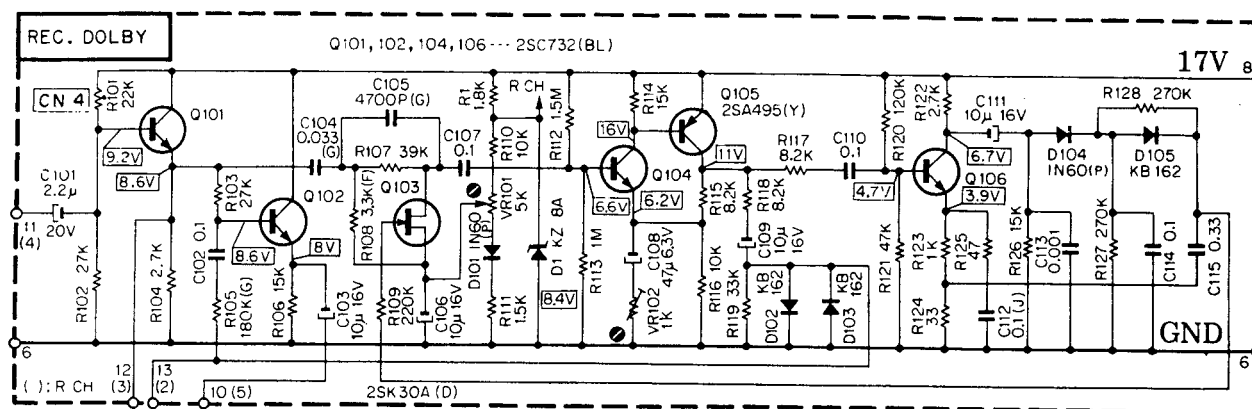

Fig. 2.6 Record Dolby Processor Circuit Diagram
Fig. 2.6 shows a recording mode Dolby processor circuit. The circuit input signal is applied through terminal 11(4), while the signal applied through terminal 12(3) is fed to the MONITOR switch and LIMITER circuit and is only subjected to impedance conversion by Q101 and is not boosted by the Dolby processor. Terminal 10(5) is the circuit output terminal and is linked with the REC. EQ. AMP via REC. CAL. VR and TAPE selection switches. Terminal 13(2) is connected with the DOLBY NR switch. For DOLBY NR IN, this terminal is open and a feedback current is applied to the base of Q102. For DOLBY NR OUT, this terminal is grounded and the output via the emitter of Q102 is cut from the Dolby processor.